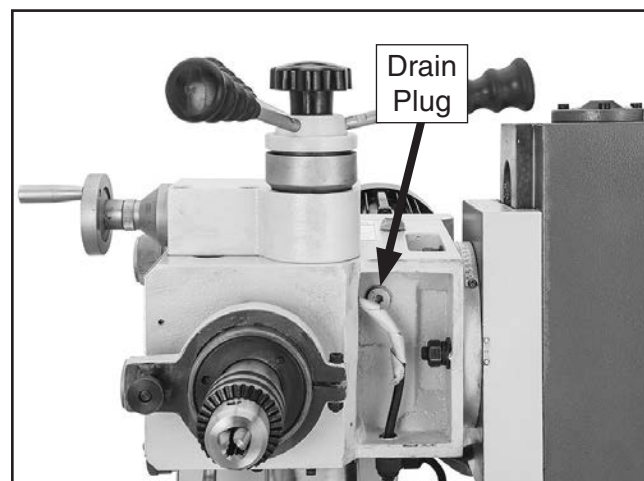

Figure 48. Location of headstock drain plug (headstock tilted 90° for clarity).
5. Remove drain plug (see **Figure 48**) and allow oil to drain into pan.